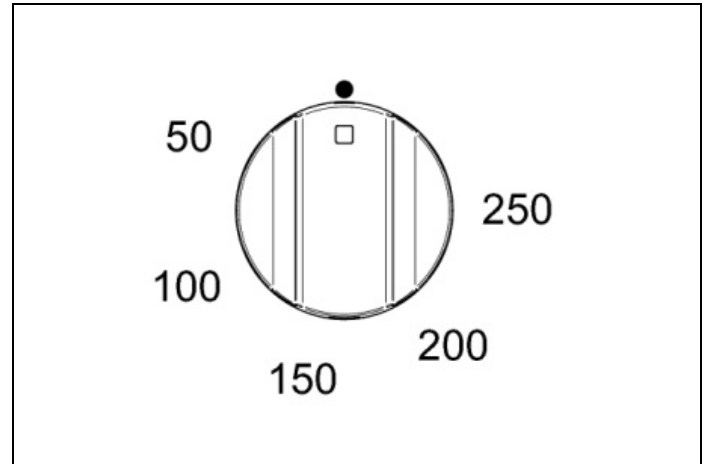
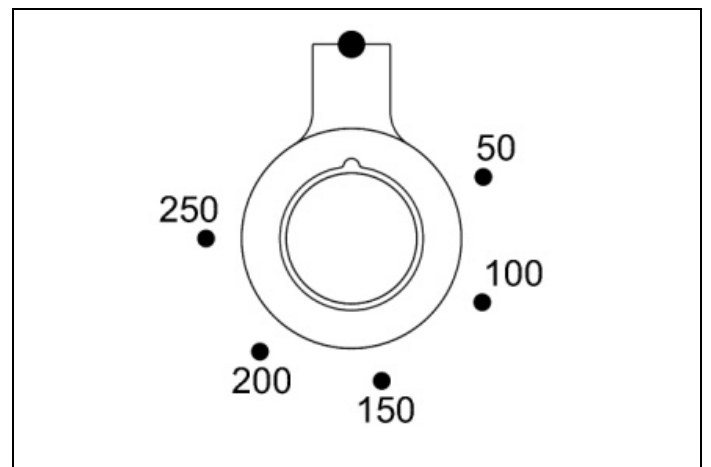
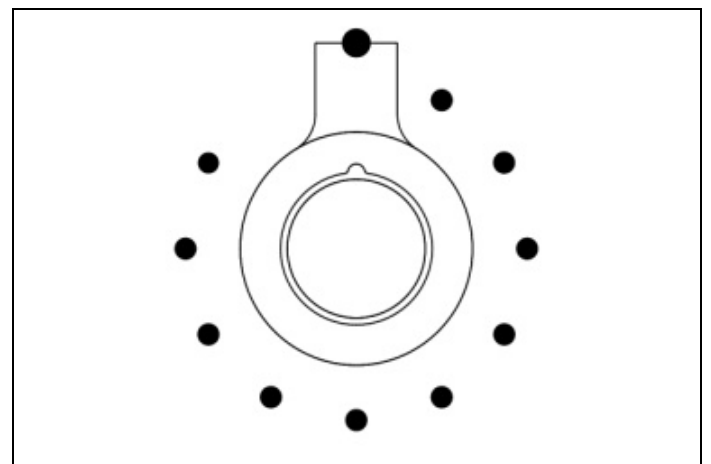

Fig. 23
Fig. 24
Fig. 25
- 2) Turn the temperature knob (Fig. 23 -Fig. 24 and Fig. 25 for the PRO T model only) clockwise to select the temperature required. The orange light turns off once the oven has heated to the chosen temperature and is ready for use. It is normal for this light to switch on and off during cooking, as the heating elements operate to keep the temperature constant. (oven operations is indicated by the programmer display for the PRO T version only).